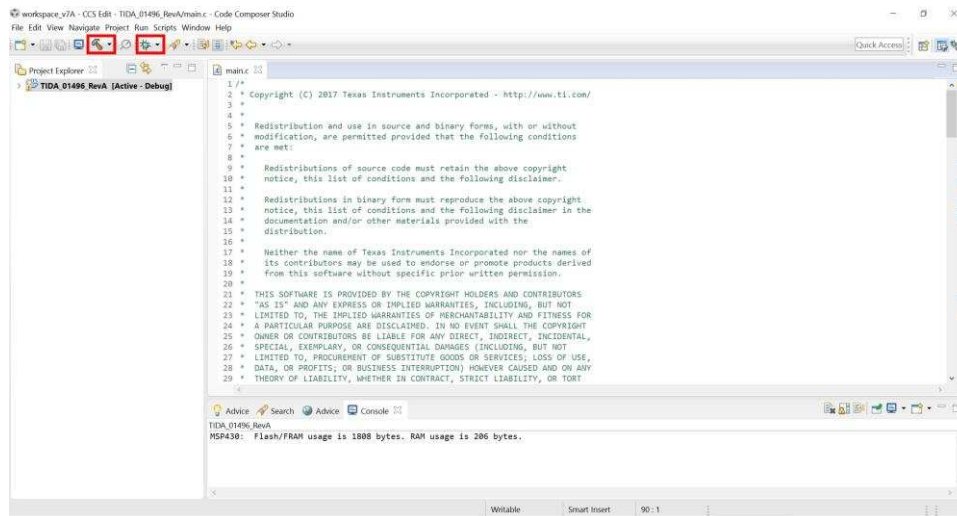

图 7. Building and Debugging Project in CCS
3. Build the project by clicking the Build button (hammer icon), which if run successfully, appears as shown in 图 7.
4. Click the Debug button (bug icon) as 图 7 shows.